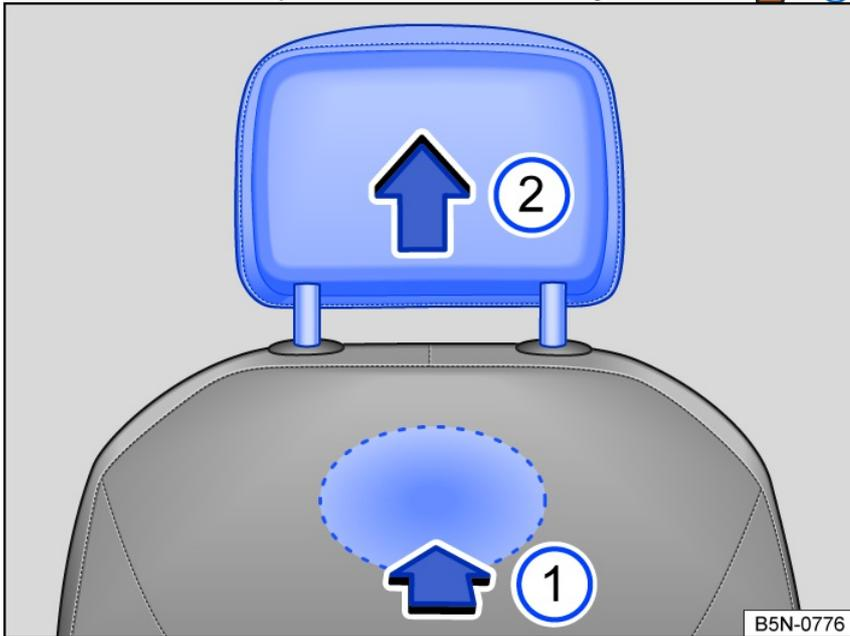

Fig. 88 Front head restraints: removing.
- To release, find the notch on the rear side in the marked area, push inwards in the direction of the arrow fig. 88 and hold.
- Remove the head restraints in the direction of the arrow fig. 88.